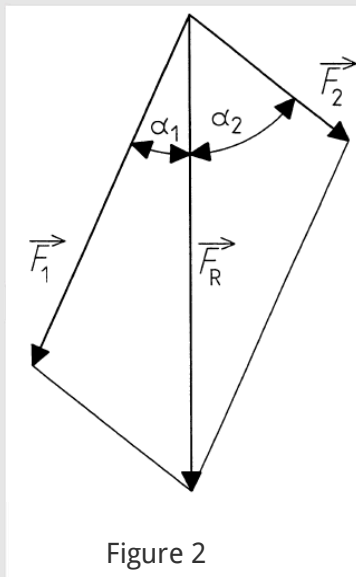

Figure 2
- For graphical evaluation, remove both force gauges and, with the help of the angle disc and the scale, compare them with the parallelogram of forces on the demo board for one of the cases studied (Fig. 2).